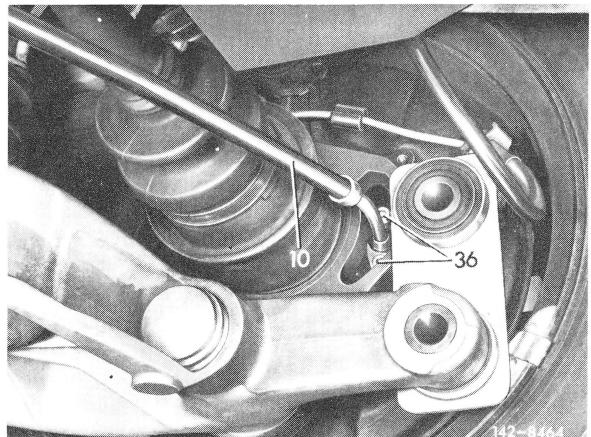

Fig. 2
- 3 On vehicles with diagonal swing axle with starting torque compensation, unscrew both hex. socket bolts (36) from wheel carrier (Fig. 2).